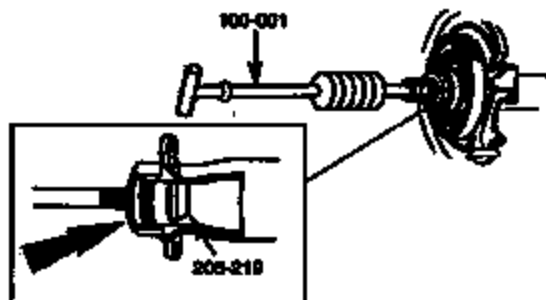

FIGURE 15
1. Using the special tools, remove the rear wheel bearing and wheel bearing oil seal (refer to Figure 15).